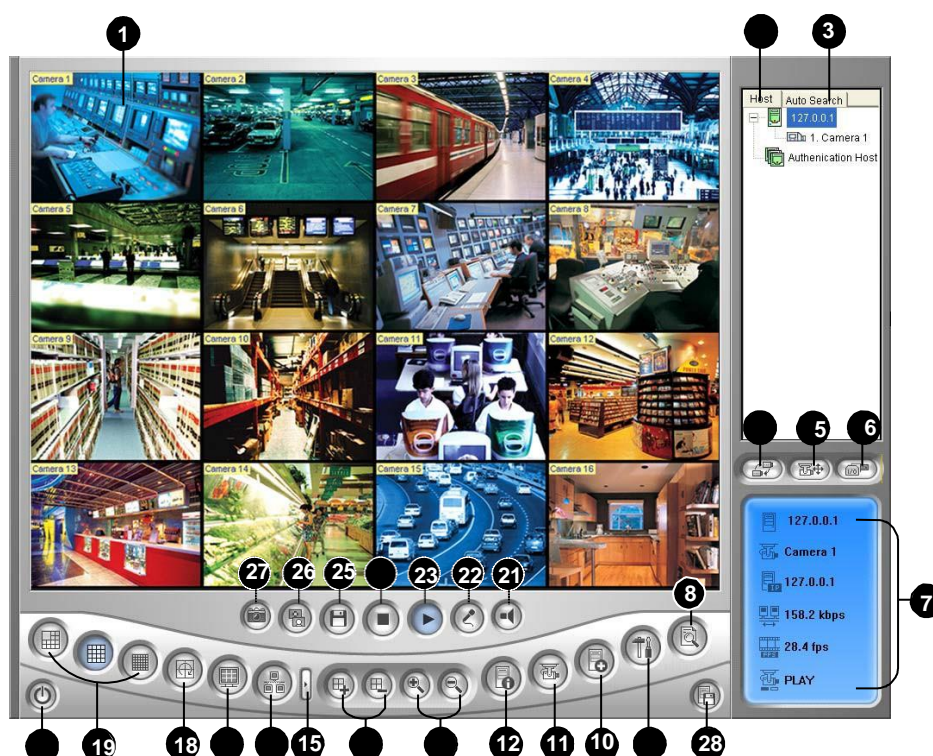

Figure 8-35 The Multi View Window
1. Click the **Edit Host** button (No. 10, Figure 8-35). This dialog box appears.
1. Click the **Edit Host** button (No. 10, Figure 8-35) to display the Edit Host window. Click the **New** button and select **Group** to create a group first. Then click the **New** button again and select **Host** to create a host.
4. Click the **Save Camera to Multiple Host** button (No. 28, Figure 8-35) to create the Multiple Hosts.
You can save live videos in a client computer. The files in AVI format are playable at the third party viewer. Click the **Save** button (No.25, Figure 8-35) and then select all or several cameras to start recording. For the recorded folder, see *[Video and Audio]* in *System Configuration* later in this chapter.
1. Click the **Add Frame** button (No. 14, Figure 8-35), and then click the monitoring windows. The selected windows will be framed in red color.
2. Click the **Video Polling** button (No. 18, Figure 8-35). The application will rotate the selected cameras in the specified time. To configure the polling time, see Figure 8-43.
To remove one camera from the polling group, click the **Remove Frame** button (No. 14, Figure 8-35), and then click its monitoring window.
2. Click the **PTZ Control** button (No. 5, Figure 8-35).